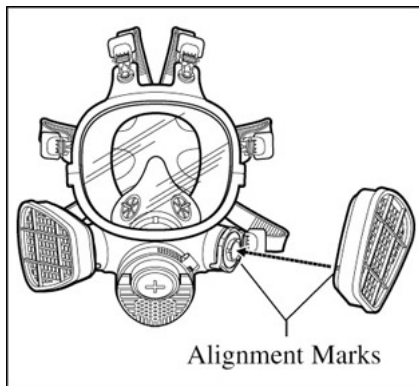

Fig. 2
3. Repeat with second cartridge. (Fig. 2 and 3)